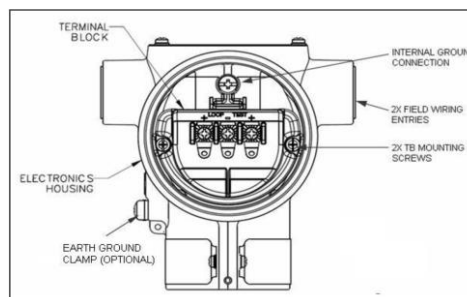

Figure 3: Two Position FF Terminal Block
| Figure 3: Two Position FF Terminal Block..... | 2 |
1. See Figure 3, for parts locations. Loosen the end cap lock using a 1.5 mm Allen wrench.